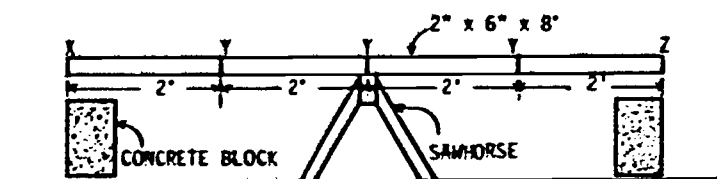

Fig. 25-1. Balance Beam Setup
1. Prior to class, mark a 2" x 6" x 8' into 2' lengths. Label the three central 2' marks as Y. Label one end X and the other end Z. Set the concrete blocks in place. See Fig. 25-1. Balance the 2" x 6" on a saw horse or similar device. The board should be in a balance position when students enter class.